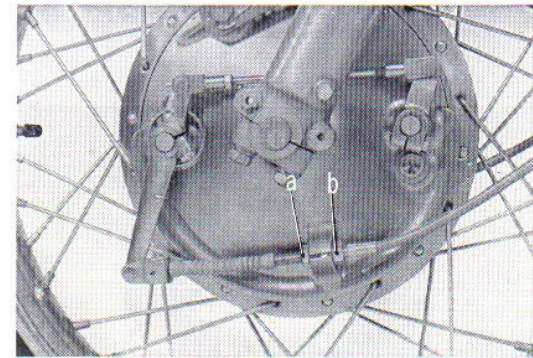

Fig. 4.9 Front brake adjustment
3. Connect the clutch cable to the left hand lever and the front brake cable to the right hand lever. The adjustment of the clutch cable is made at the crankcase, whereas, the adjustment for the front brake is made with nut "a" and "b" at the lower end of the front brake cable. (Fig. 4.9)